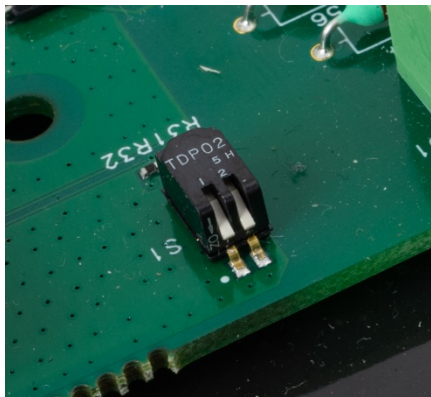

Figure 4-7: Metrology Switches SW1-1 and SW1-2, Both ON
- If the metrology data is to be reset, SW-1 and SW1-2 should be set to ON simultaneously, as shown in Figure 4-7.